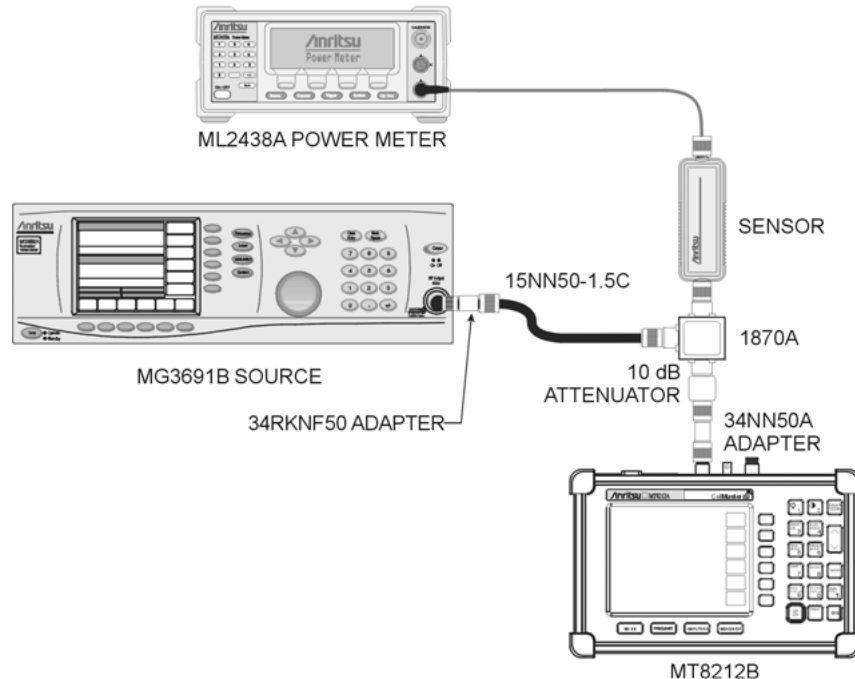

Figure 3-2. Level Accuracy Across Frequency Test Setup
12. Remove Sensor A, install the 34NN50A adapter to the end of the Attenuator, and connect to the MT8212B as shown in Figure 3-2.
16. Remove Sensor A, install the 34NN50A adapter to the end of the Attenuator, and connect to the MT8212B as shown in Figure 3-2.